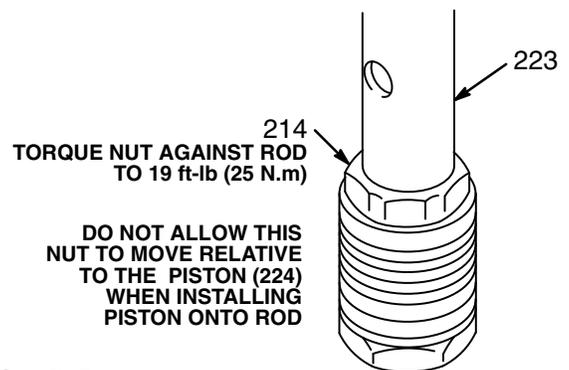

Fig 19-3
4. Torque the nut (214) against the rod (223) to 19 ft-lb (25 N.m). Use two wrenches to maintain the alignment as mentioned in the **NOTE** above. See Fig 19-3.